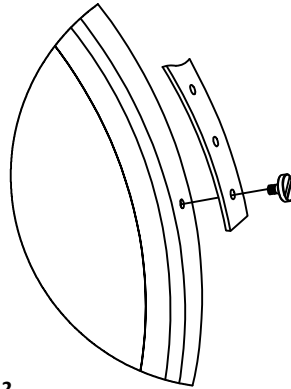

Fig 2
- Attach the decorative strap to the side of the mirror frame using the bolts provided, see Fig 2. *Please note this is not intended to be used as the weight bearing fixing.*